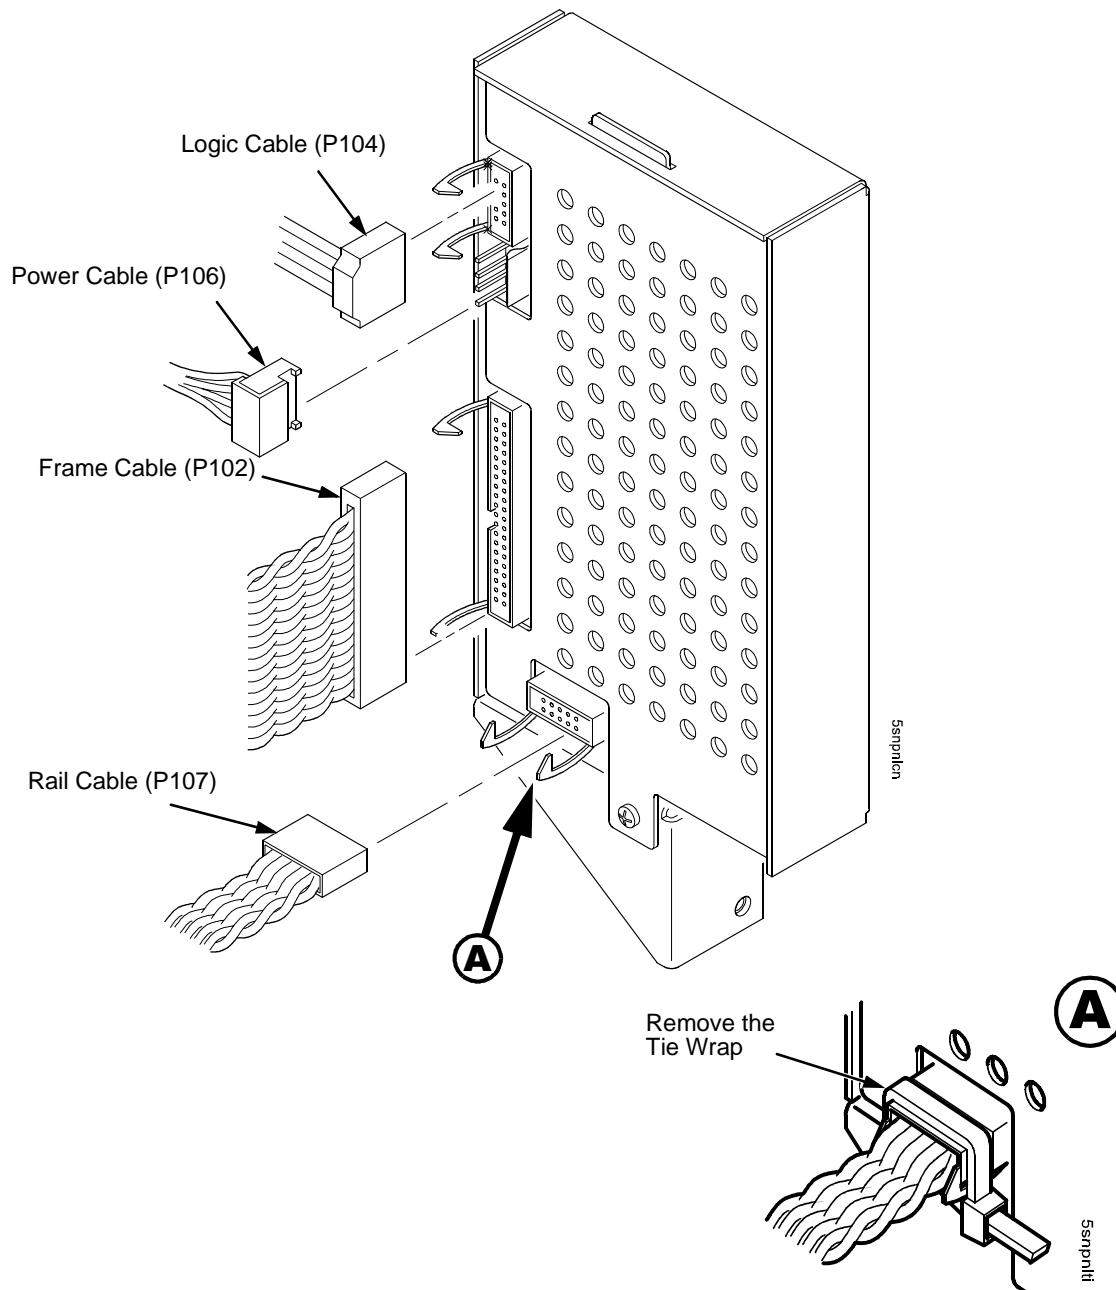

Figure 69. Removing Cables from the Stacker Control Panel
14. Remove four cables from the stacker control panel, and remove the stacker control panel. (Figure 69.)